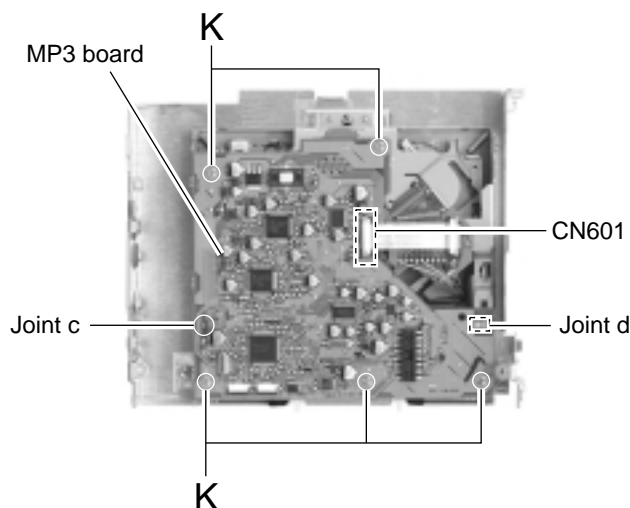

Fig.12
■ Removing the MP3 board (See Fig.12)